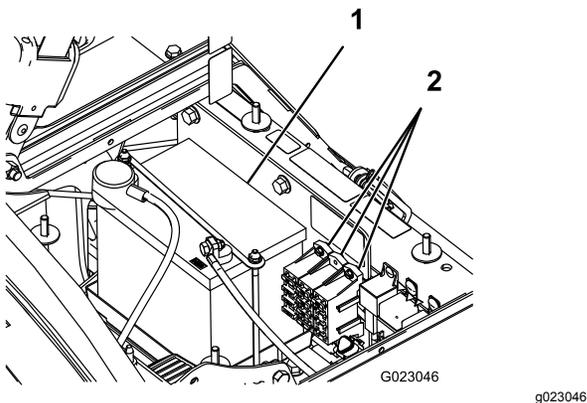

Figure 32
There are 2 fuse blocks and 1 empty slot in the electrical system. They are located beneath the seat (Figure 32).
2. The battery is located on the right hand side of the machine behind the pump (Figure 32).
5. Remove the battery retainer and fasteners (Figure 32).
2. Install the battery retainer and secure it with the fasteners you removed previously (Figure 32).
4. Install the battery cover and secure it with the 2 knobs (Figure 32).
1. Loosen the knobs on the sides of the battery box and remove the battery cover (Figure 32).